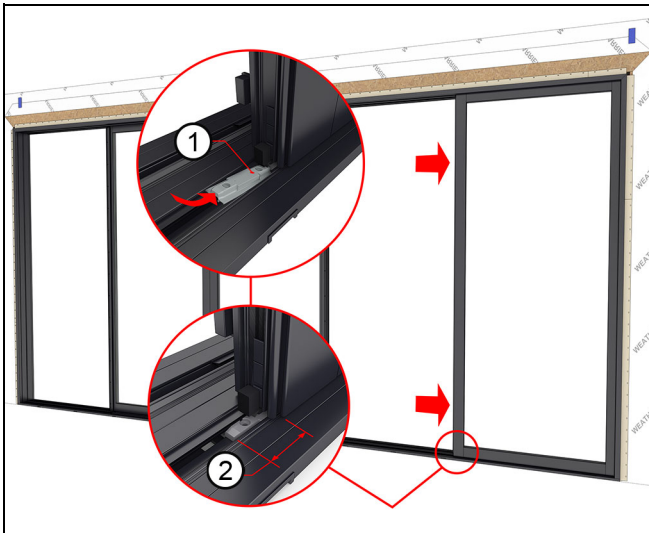

Figure 135
6. Snap the lower stationary bracket onto sill, then slide underneath the (H) stationary panel until fully seated. The bracket should stick out approximately 2 1/4" (57) from panel when fully seated. Fasten with #8 x 1/2" self drilling screw. See Figure 135.